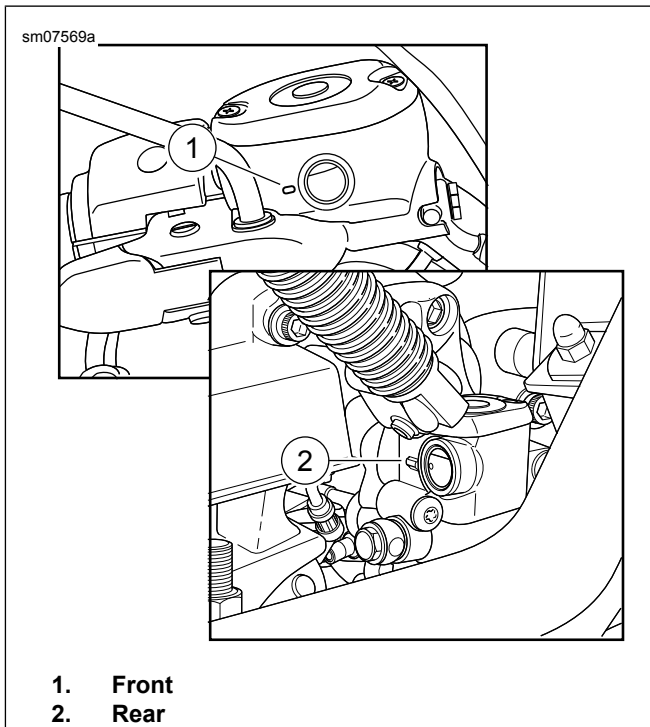

Figure 52. Brake Fluid Minimum Marks
See Figure 52. View sight glass (1) to verify that fluid level is at or above the center of sight glass.